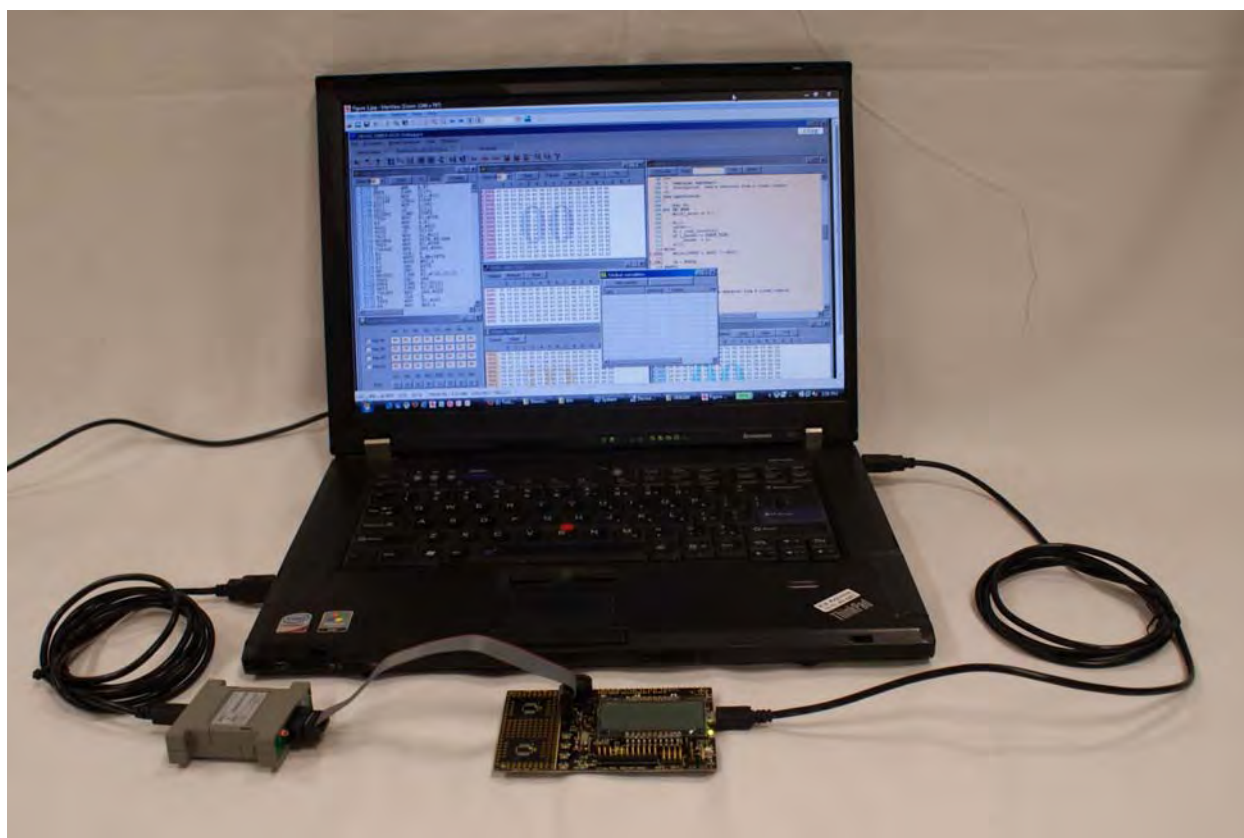

Figure 2. An Example Setup
The driver programs for the Z8051 On-Chip Debugger are copied during the software and documentation installation. In the following procedure for Windows XP systems, ensure that the target side of the OCD will remain unconnected while you install these drivers. Refer to Figure 2 for guidance.
4. When the installation is complete, plug in the Mini-B connector of the second USB cable into the Board, and the larger A connector into the USB port of your PC. Again, refer to Figure 2 on page 5 for guidance.